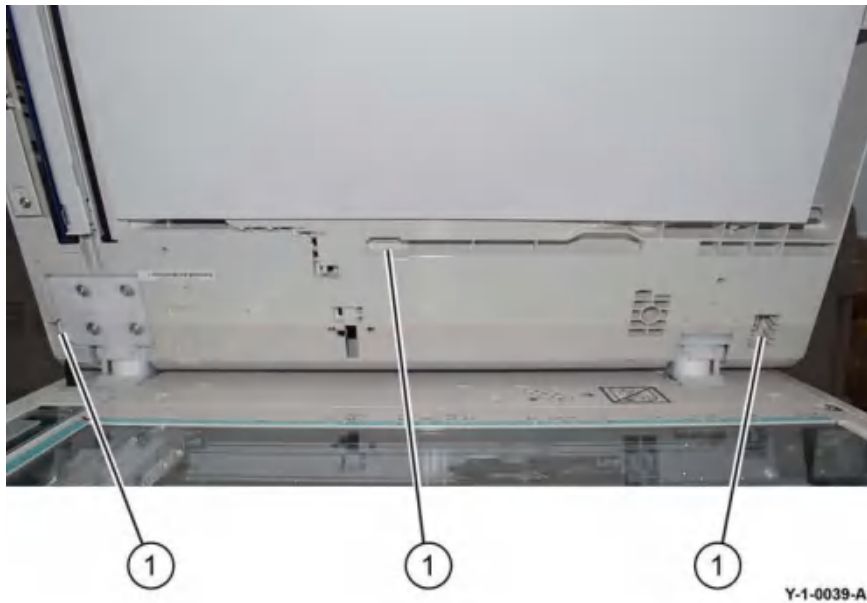

Figure 3 Hooks
3. Release the three hooks (1) that secure the DADF rear cover, Figure 3.